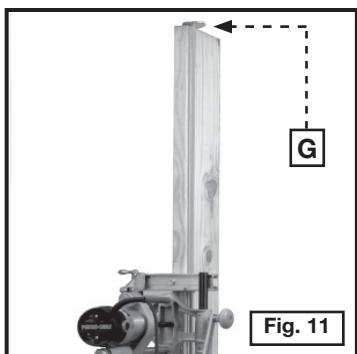
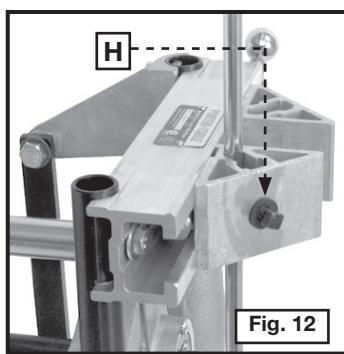

Fig. 11
Fig. 12
If you have a number of doors with the locks at the same height, the height-rod attachment (Fig. 11) can be of great value. After you have determined the correct height, and have the lock mortiser in position on the first door, attach the four rods that compose the height-rod attachment. Insert the rods in the mortiser and place the height rod stop (G) on the top of the rod so that it rests on the top of the door. Lock the height-rod screws (H) Fig. 12. To locate the mortiser on the next door, place the mortiser on the door with the height-rod stop resting on the top of the door and tighten the clamps. This will assure having all locks located in the same position.